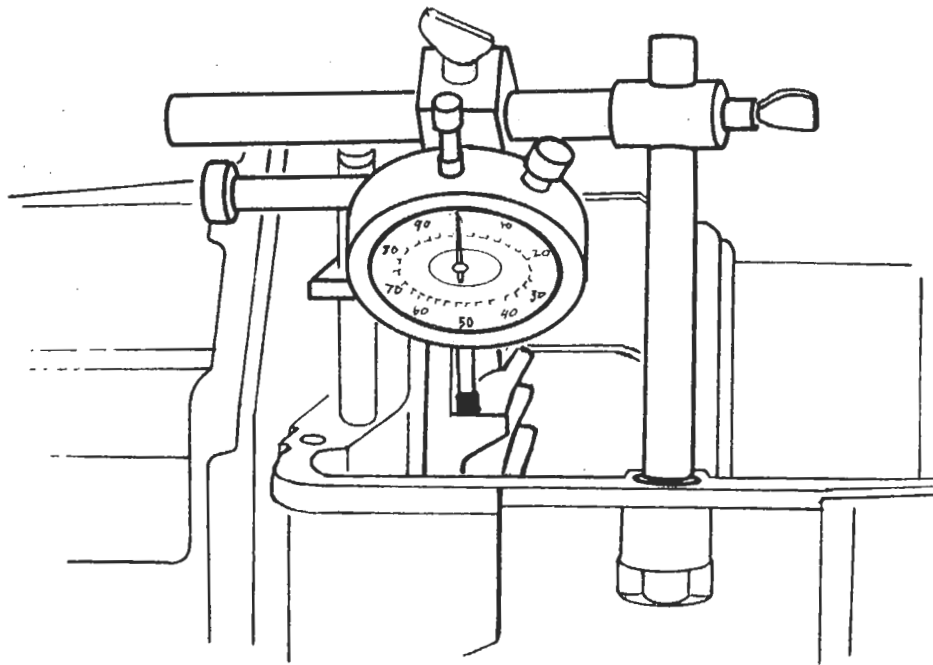

Fig.10 Measuring crown wheel backlash
- (b) Adjust the position of the dial gauge so that the measuring probe touches the flank of a tooth at heel (outer edge of crown wheel) see figure 10. This should be achieved somewhere near maximum diameter of the crown wheel.